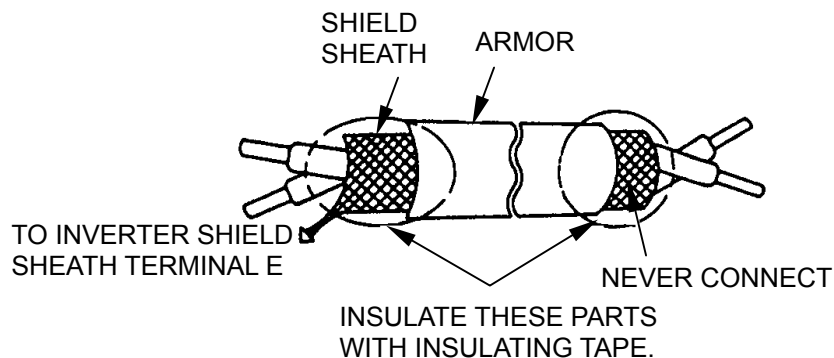

Fig. 4 Shielded Wire Termination
- (1) Separation of control circuit leads and main circuit leads: All signal leads must be separated from main circuit leads L1 (R), L2 (S), L3 (T), \oplus , \ominus , B2, T1 (U), T2 (V), T3 (W) and other power cables to prevent erroneous operation caused by noise interference.
- (2) Control circuit leads ⑨, ⑩, ⑱, ⑲, ⑳ (contact output) must be separated from leads 1 to 8, ㉑, ㉒, ㉓, ㉔, ㉕ and ㉖~㉗.
- (3) Use twisted shielded or twisted pair shielded wire for the control circuit line and connect the shield sheath to the inverter terminal E to prevent malfunction caused by noise. See Fig.4. Wiring distance should be less than 164ft (50m).